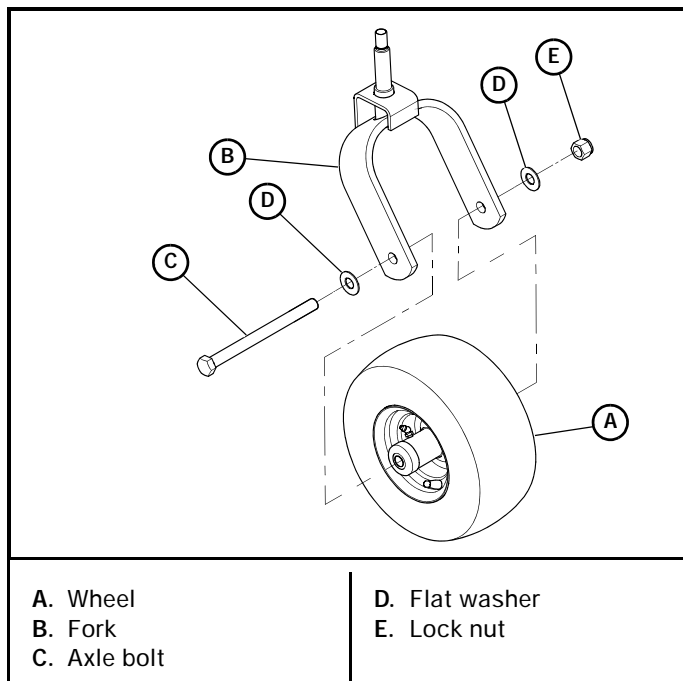

Figure 4-39
3. Remove the wheel from the fork by removing the axle bolt, flat washers, and lock nut. Figure 4-39